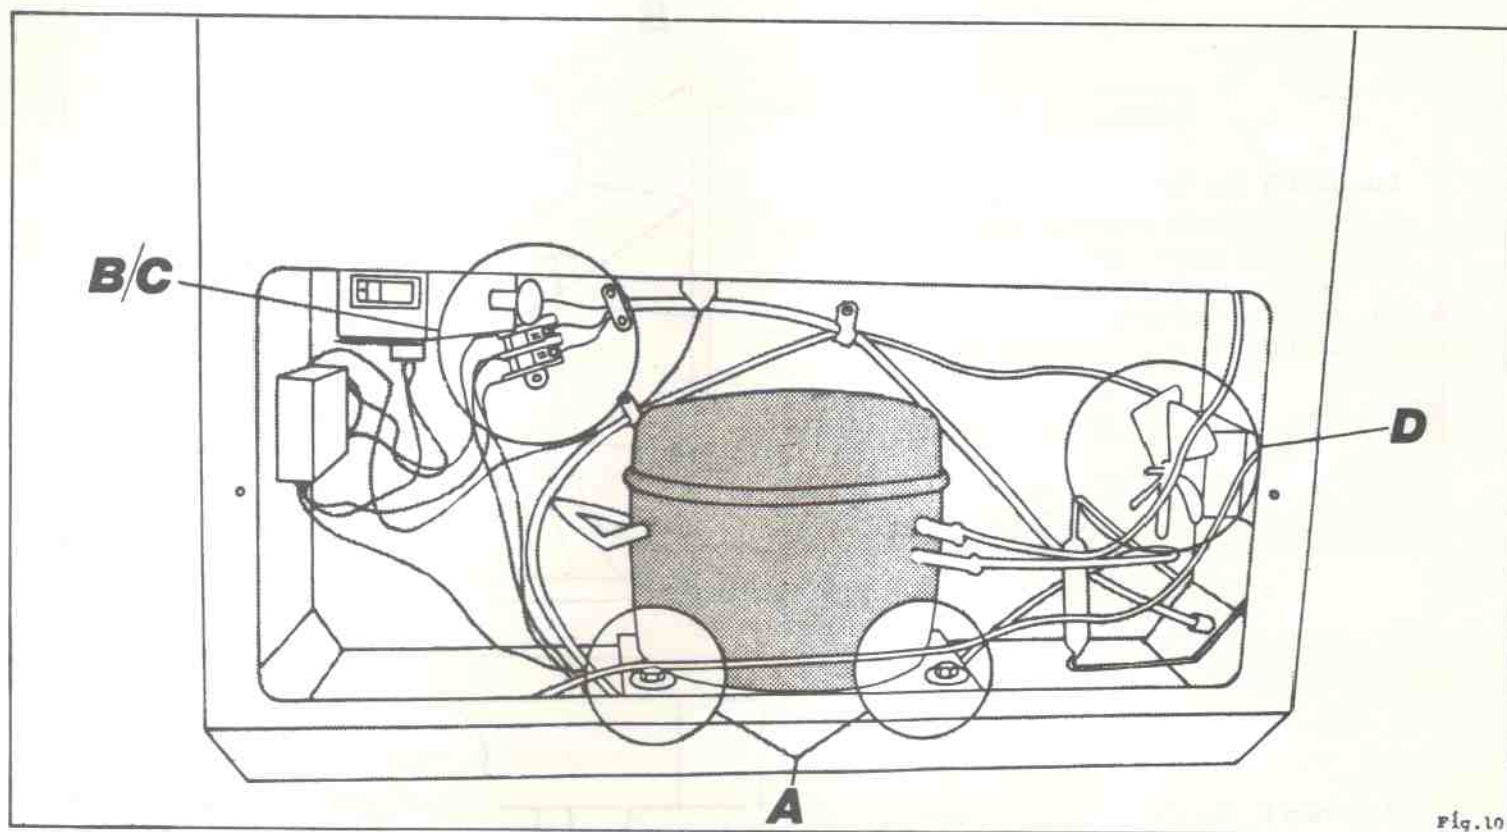

Fig.10
3. EXAMINE the compressor compartment (fig. 10). Check carefully for any damage, dislocation or looseness etc. of the components, specially at locations A, B C and D as below and rectify as necessary.